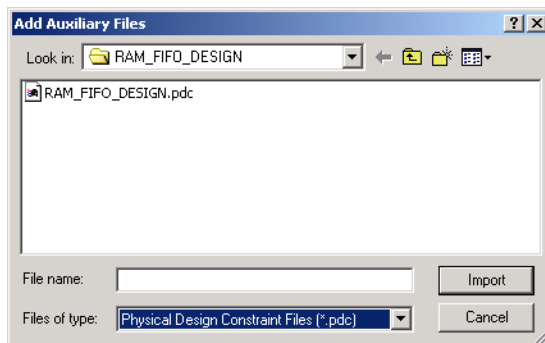

Figure 7-6. Add Auxiliary Files
2. **Click *the Add button*.** The Add Auxiliary Files dialog box appears, as shown in Figure 7-6.